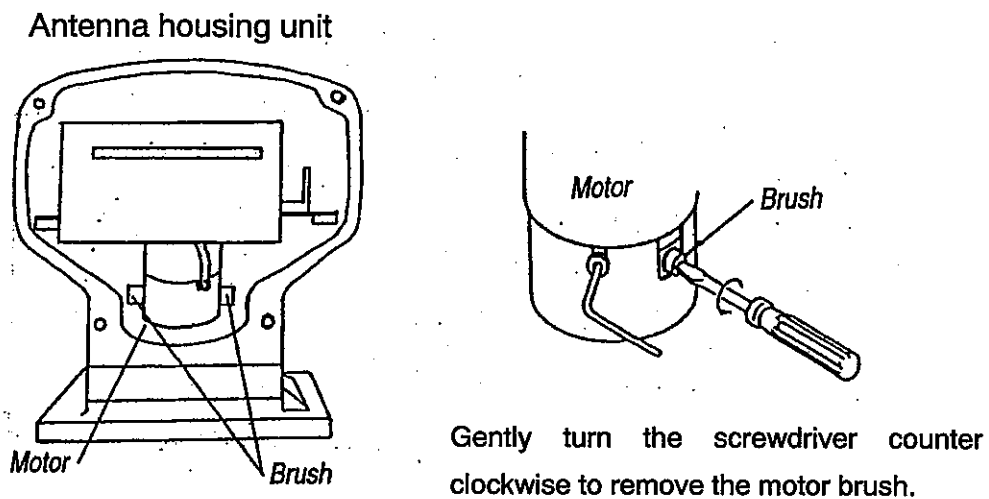

Figure 9.2 Replacing the motor brushes
- (1) Loosen the four fixing screws that fasten the front side cover and remove the cover. The antenna motor will be found in the lower part in the antenna housing.
- (2) Use a flat-blade screwdriver to loosen the motor brushes as shown in Figure 9.2..
- (3) Insert a screwdriver into the groove provided on top of the brush and gently turn the screwdriver counter clockwise. Make sure to remove both brushes.
- (4) Install a new pair of brushes and reverse the procedure from step (3) to fix the brushes.